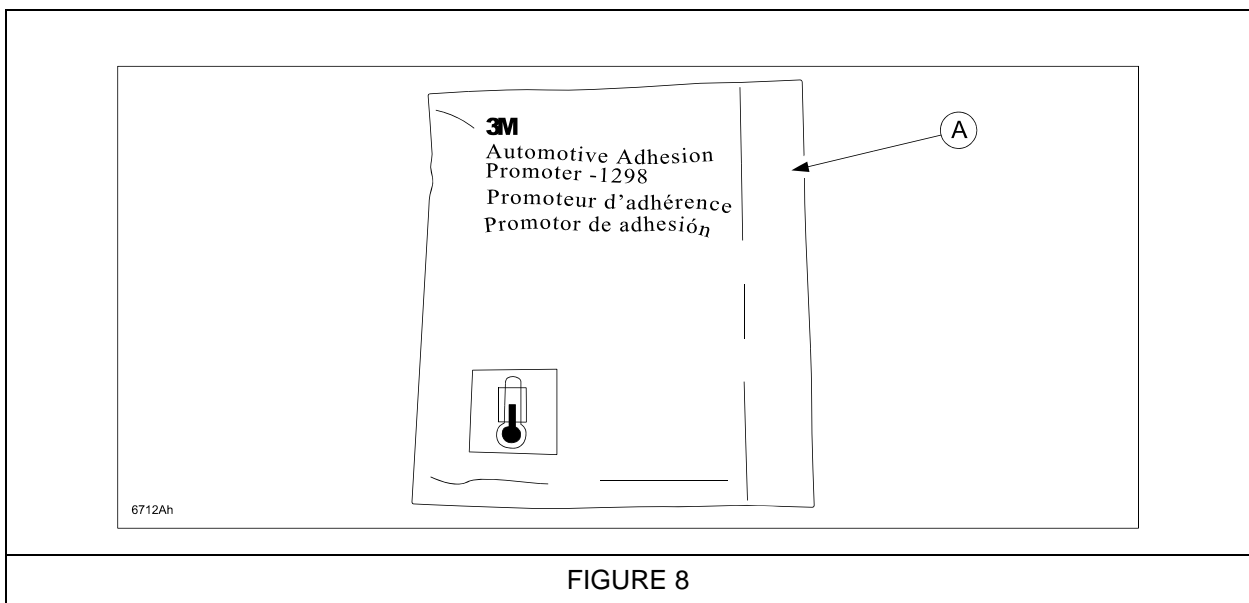

FIGURE 8
3. Apply the supplied adhesive promoter (A) to the cleaned area. See Figure 8